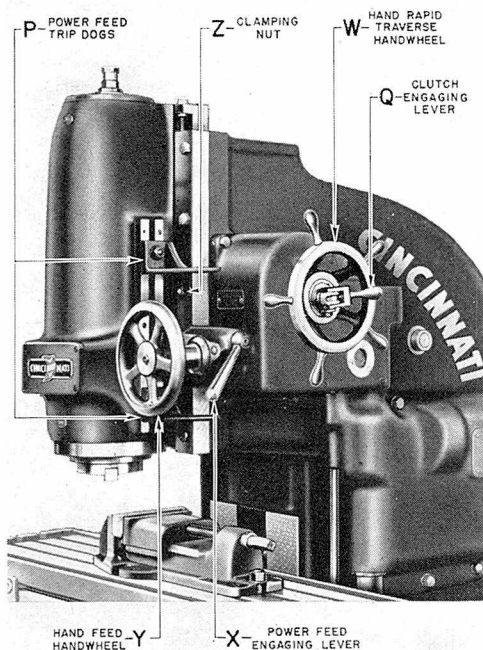

Figure 13
Refer to Fig. 13 for the operating instructions given on the following page.
**Loosen nut "Z"** (Fig. 13) and the clamping lever on the left hand side of the head before engaging the power feed or before moving the head by hand. The head of the *high speed* verticals moves at a rate of approximately .6 *the dial reading*, and the head of the *medium speed* verticals moves at a rate of .5 *the dial reading*.